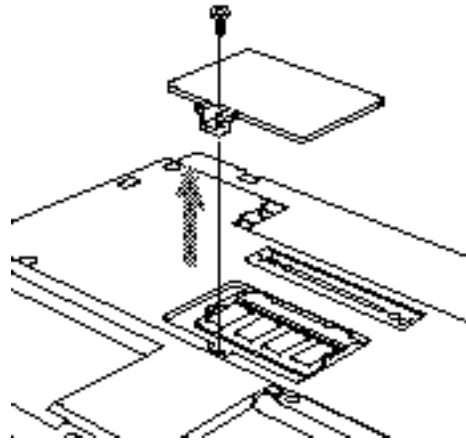

Figure 4-13 Opening the Memory Upgrade Compartment
4. Remove the screw of the memory upgrade compartment. (Figure 4-13.)